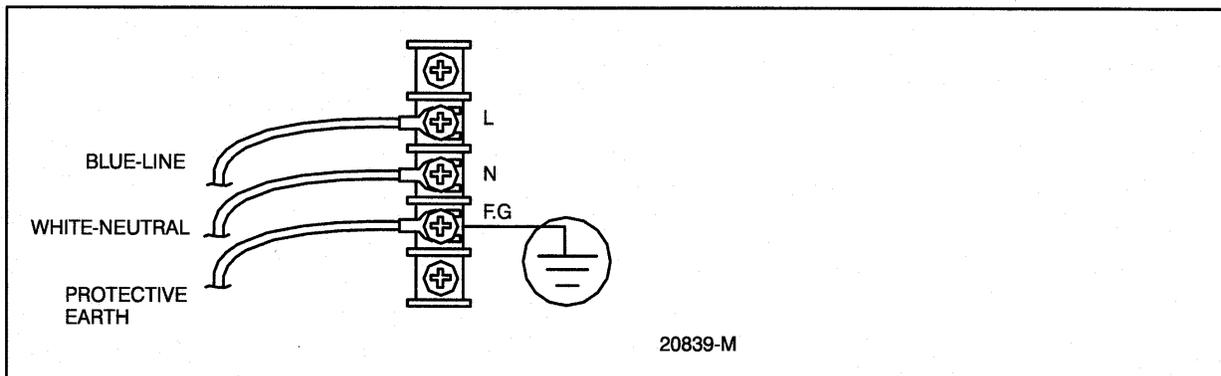

Figure 3 - Connecting Incoming Power
- Step 2. Connect incoming power to the terminal strip on the AutoMax PC3000 Packaged Version's chassis. Refer to figure 3.